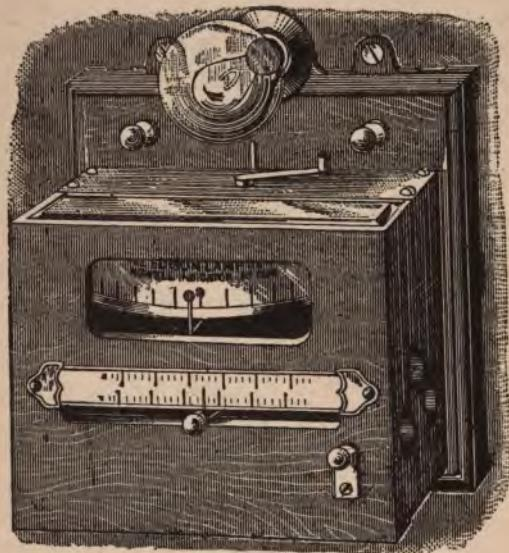

Fig. 21.—Edison-Howell Lamp Indicator.
*Edison-Howell Lamp Indicator*, as used on the commercial circuits in America, is represented in Fig. 21. A magnetic needle is employed as the indicator. It remains at "zero" (that is, in this case, the centre of the scale, indicating the "balancing point" or position of equilibrium when set to the exact voltage required upon that circuit), and is only caused to
The interior construction of the instrument shows a galvanometer needle carrying a long, light indicator, the terminal point of which is visible upon the upper scale of Fig. 21. A directing magnet is swung upon an axis, accessible from without the case, so that the indicator can at any time be brought to zero. The sliding contact, the indicator attached to which is visible upon the lower scale of the box, has a handle projecting through the case for setting. The coils have a resistance of 90, 257, and 1,000 ohms respectively, and are composed (as to  $A$  and  $D$ ) of German silver wire, and  $B$ , partly of German silver and partly of copper; by a known proportion of these the indicator remains balanced at all ordinary temperatures.